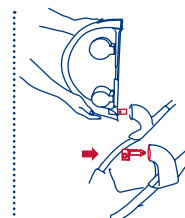
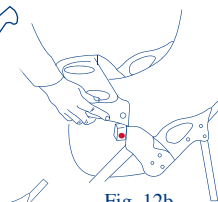

Fig. 12a
Fig. 12b
**To attach the front child tray:** Insert the tray clip into the fitting on the stroller's fold joint. Check the tray clip locks into place. (Fig. 12a) Push the angled tray onto the post at the end of the right armrest, while pressing downward on the snap button, until locked into place. Rotate the tray downward until latched onto the left armrest. Please check that the snap button comes through and securely latches the tray in place. (Fig. 12b)